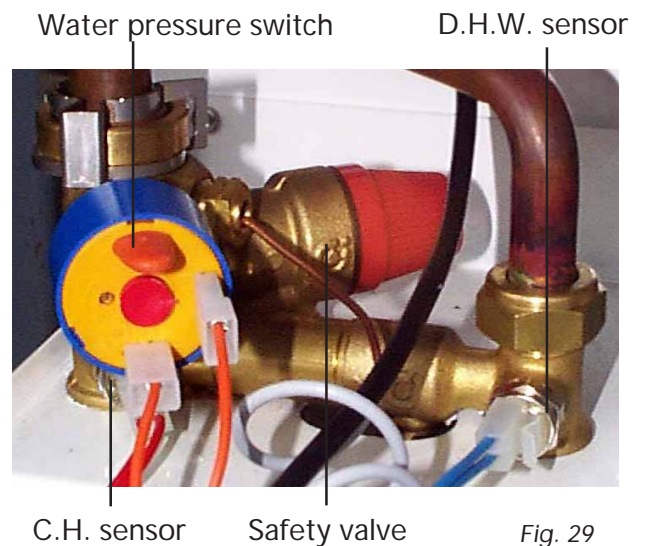

Fig. 29
7.07 D.H.W. temperature sensor or Central Heating Temperature Sensor (fig. 29)
- Identify the sensor from figure 29
7.11 Water Pressure Switch (fig. 29)
7.12 Safety Valve (fig. 29)
- Identify valve from fig. 29